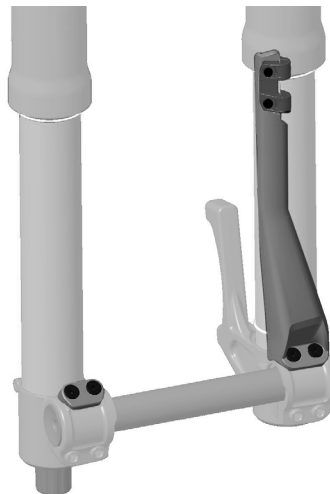

Figure 2: Installed mast and cover plate
2. Install the cover plate and mast as shown (Figure 2). Use a 2.5 mm hex bit and a torque wrench to reinstall two bolts on each side, and tighten to 3.4 N·m (30 in-lb).